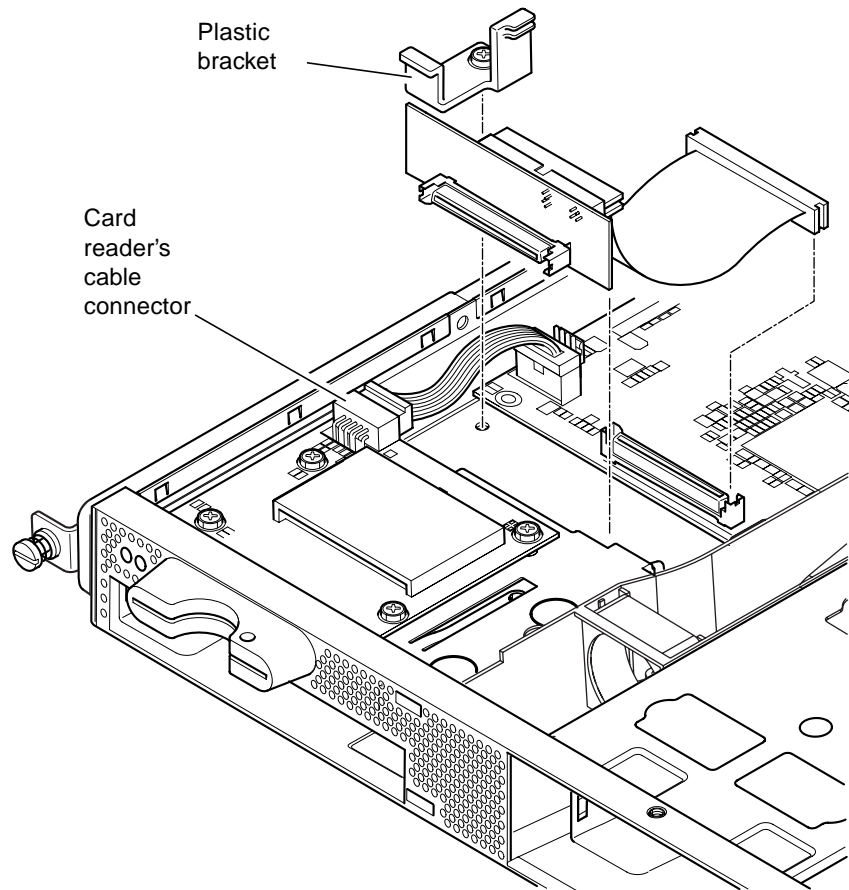

FIGURE 11-3 Replacing the Paddleboard at the Back of the DVD or CD-ROM Drive Enclosure
3. **Disconnect the memory card reader board’s power cable from the system board (see FIGURE 11-3).**
6. **Connect the new IDE ribbon cable to the system board with the cable extending away from the system board and towards the DVD or CD-ROM drive (see FIGURE 11-3).**
11. Now replace the plastic bracket that secures the paddleboard, and screw it into the chassis base (see FIGURE 11-3).